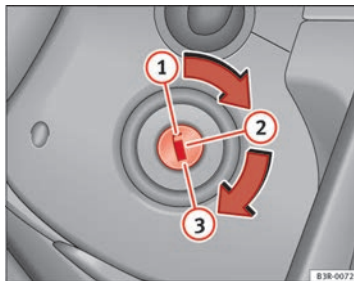

Fig. 137 Ignition key positions
- Turn the ignition key to position ① ⇒ fig. 137.